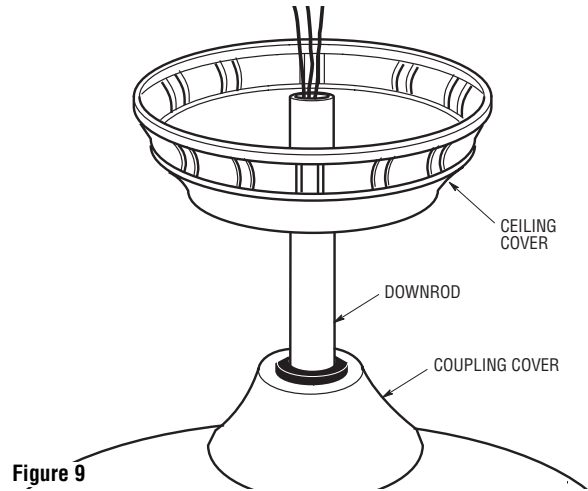

Figure 9
14. Make sure the grommet is properly installed in the coupling cover, then slide the coupling cover on the downrod until it rests on the motor housing. Place the ceiling cover over the downrod. Be sure that the ceiling cover and the coupling cover are both oriented correctly (Figure 9).